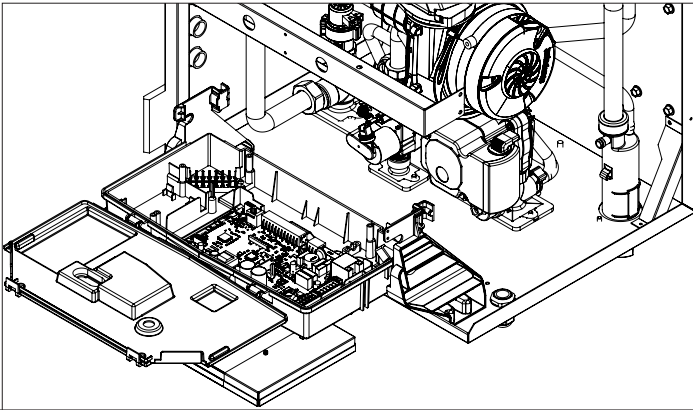

Figure 50 - Access to Low Voltage Wiring Connections
- Open the control panel cover to have access to the main PCB. See Figure 50.